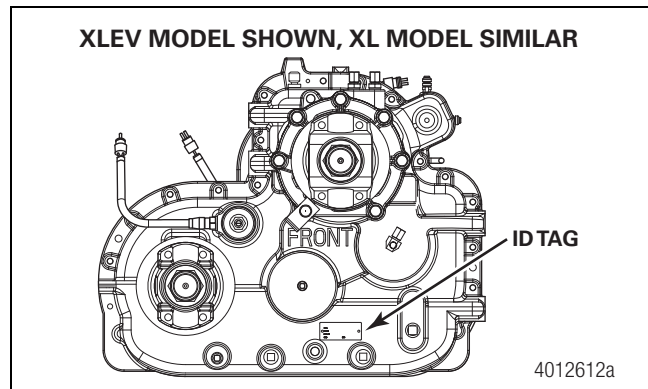

Figure 2
*Transfer case serial numbers can be found on the transfer case front case half identification tag. Figure 2.
NOTE: Spacer installation is required for transfer case serial numbers before LRS00960152. On serial numbers LRS00960152 or higher, the spacer is not required and should not be used. Refer to the ID tag on the front case half for the serial number. Figure 2.